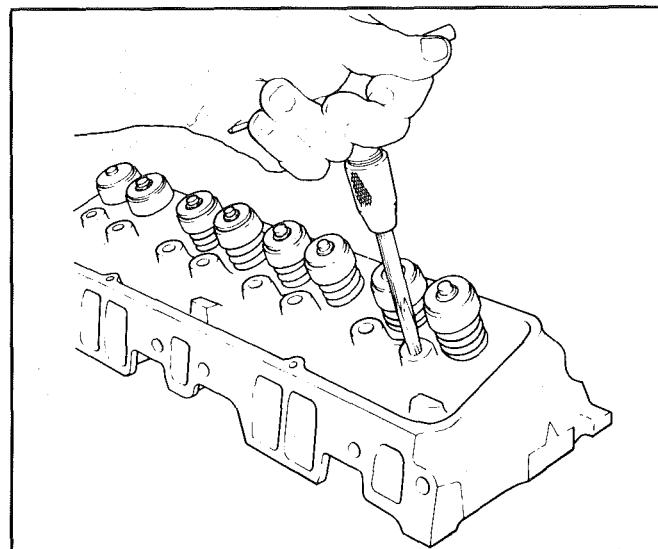

Fig. 6A3-24 Reaming Rocker Arm Stud Bore
- Ream hole for oversize stud using Tool J-5715 for .003" oversize or Tool J-6036 for .013" oversize (fig. 6A3-24).